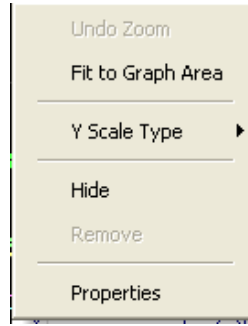

Figure 9.21 Real-Time Graphs Pop-Up Menu
Step 1 Place the cursor in a graph area, then right-click to display a pop-up menu (Figure 9.21).